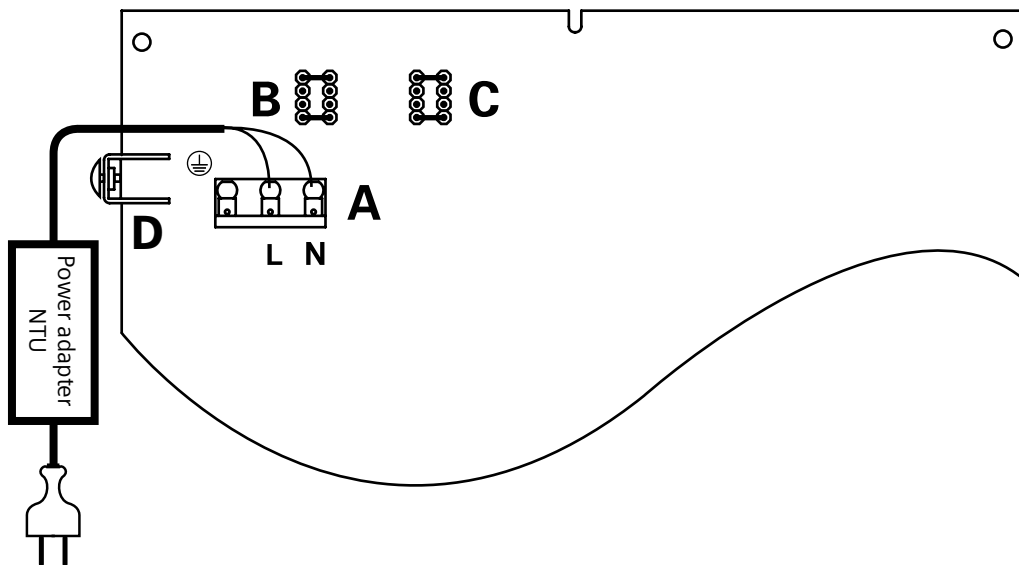

Fig. 2.179 Jumper settings: Desktop unit supplied redundantly (local with AC or remote powered) with the desktop power adapter NTU
6. Set the jumpers according to Chapter 2.13.5, Fig. 2.179 to remote supply (additional jumpers are included with desktop unit NTU)